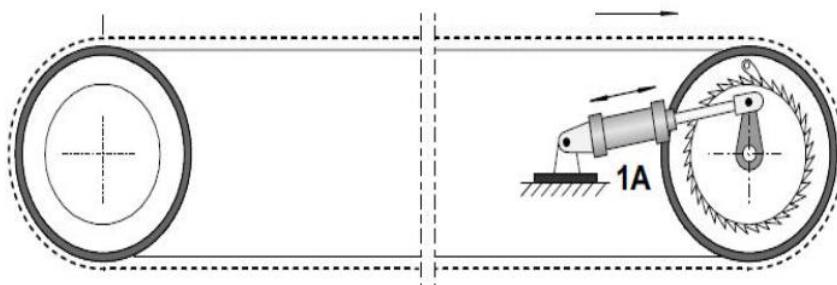

Figure 1 / Rajah 1
- (c) The double acting cylinder as shown in Fig.1 below is used to spin a conveyor belt generate. When the detent switch is turned on, the piston rod starts oscillating. Two limit switches should be used to control the length of the forward and backward strokes. Construct the electro-pneumatic circuit.